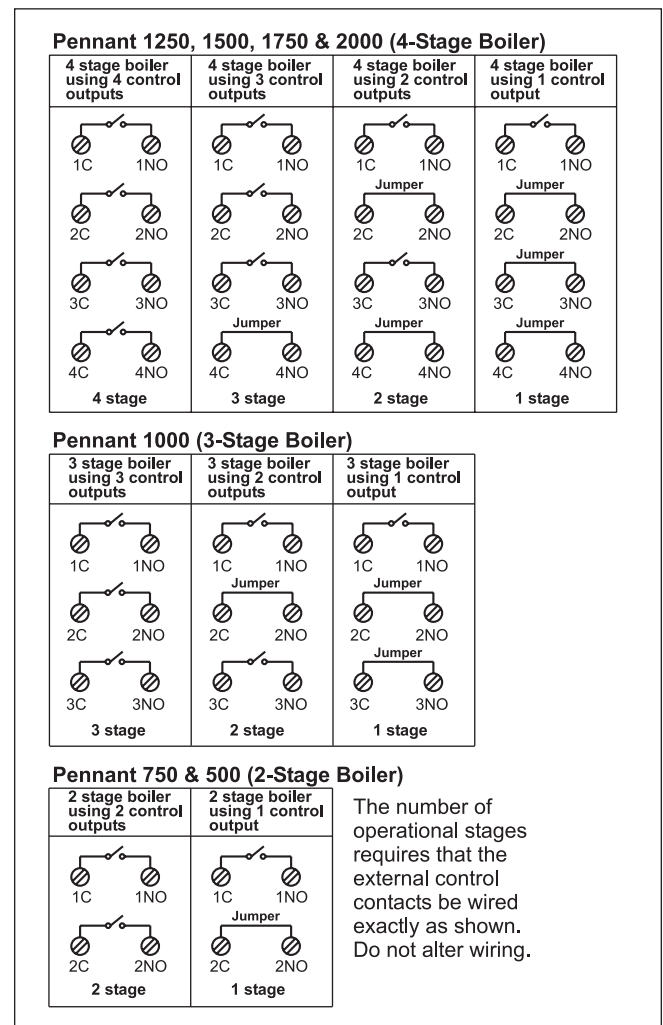

Figure 15. External Control Connection Wiring.
**Figure 15** shows how to wire the external controller to the Pennant's field wiring panel, which is located on the right side of the Pennant.
Most of the time, the number of stages from the external control will match the number of stages on the Pennant. However, in some instances, the controller will not have enough staging capability to work with all of the stages on a Pennant unit (for instance, using an 8-stage external control with four 4-stage Pennant units.) In these instances, it is very important to follow the instructions in this section **Figure 15** shows how to combine stages on the Pennant for those instances when the external controller cannot control all the stages available.
**NOTE:** The only time Pennant stages should be jumpered is when the Pennant has an external control, and the Pennant is used in Mode 6. In all other modes, when the Pennant controls its stages, the terminals shown in **Figure 15** must NOT be jumpered.